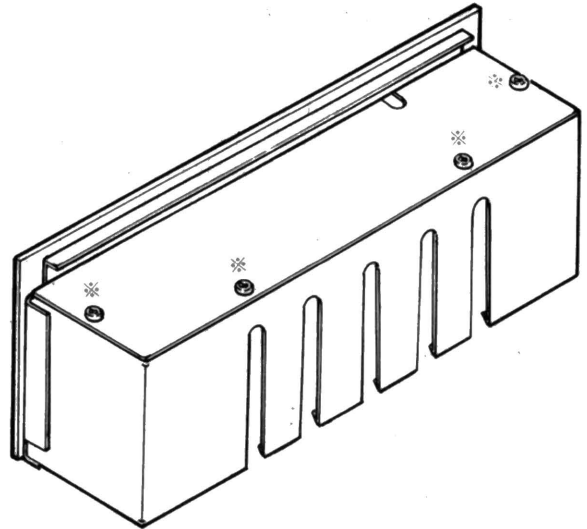

Fig. 2-1. Removal of Shield Plate
- Remove the four Phillips-Head screws (+RF3 $\phi$  ×6) that secure the shield plate. See Fig. 2-1.